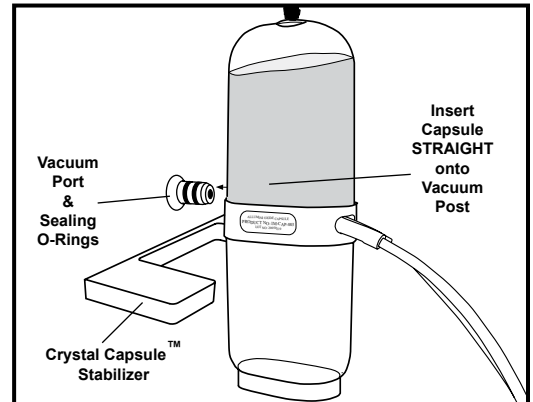

Figure 8
- Slide the Crystal Capsule's™ opening onto the male vacuum port post sticking out of the front of your Gio Peel. Vacuum port post is located between the Crystal Capsule™ stabilizer (fig. 8).
- Insert capsule fully onto the post with both o-rings down inside the opening in the capsule (fig. 8).